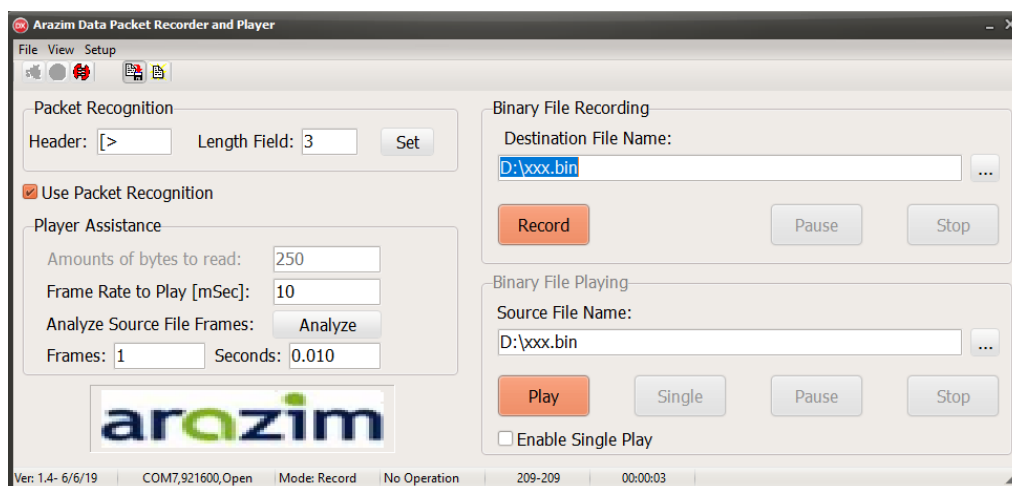

Figure 13. arazim Data Packet Recorder and Player
3. In the three buttons on the left of the Toolbar (Figure 13):